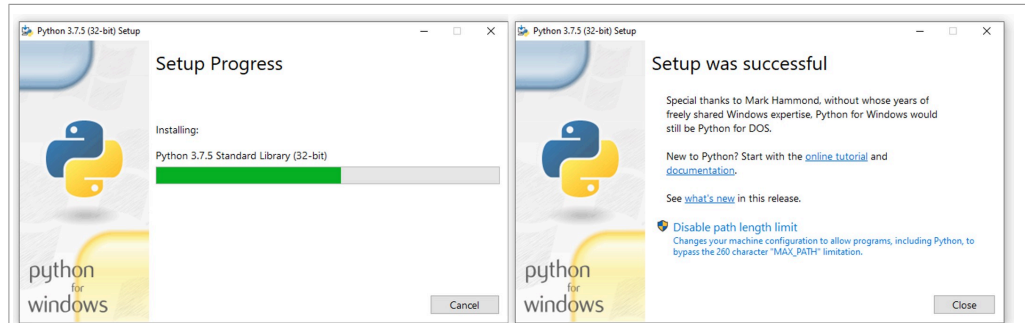

Figure 92. Python 3.5.x 32 bit installation completed
- 3. Wait a few seconds until the installation is completed as indicated in Figure 92